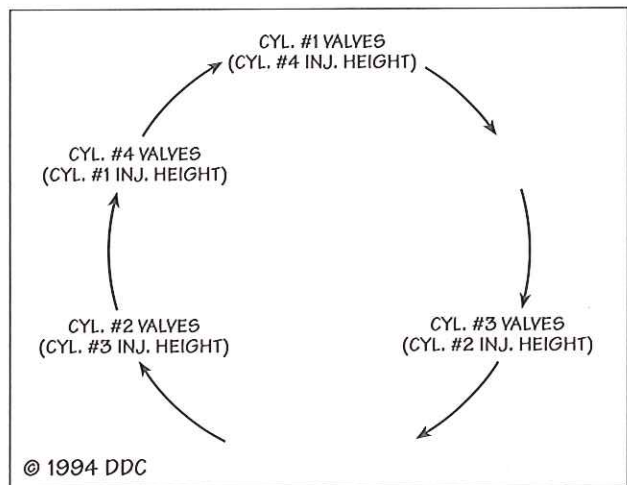

FIG. 58
- Refer to the Timing Circle Chart in Fig. 58 and locate the cylinder. The Timing Circle can be started with any cylinder.
- Refer to the Timing Circle Chart in Fig. 58. Note which cylinder number is listed in the parentheses directly under the cylinder that just received valve adjustment.